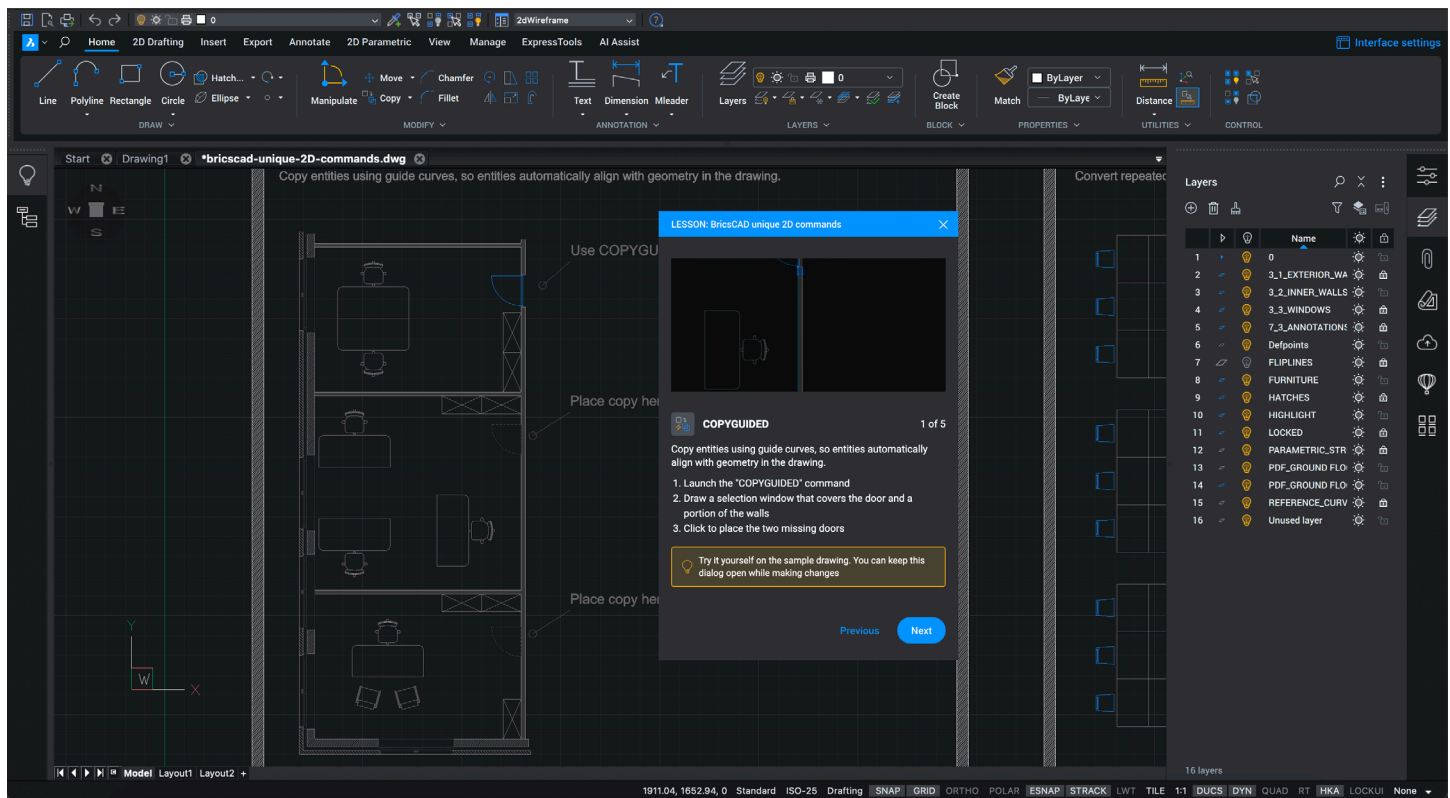

Figure 1
- Ribbon: Now QT-based, with search, a better layout and command presentation, and tool size control. (See Figure 1)